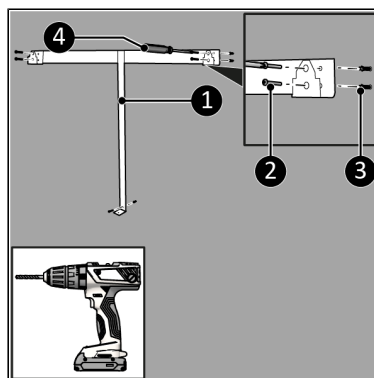

Figure 19.
4. Place the wall bracket (Figure 19, pos. 1) against the wall and mark the five holes.
6. Place plugs (Figure 19, pos. 3).
7. Screw and tighten the wall bracket to the wall with five large screws (Figure 19, pos. 2) using a Phillips screwdriver (Figure 19, pos. 4).